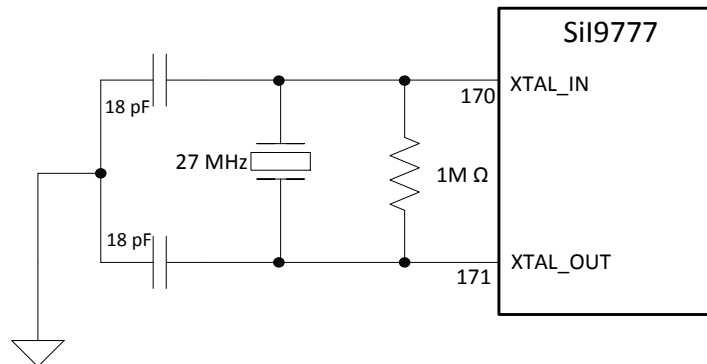

Figure 5.2 27 MHz Crystal Circuit
***Note:** A 27 MHz crystal or oscillator clock source is required for operation. Refer to Figure 5.2 on page 50.